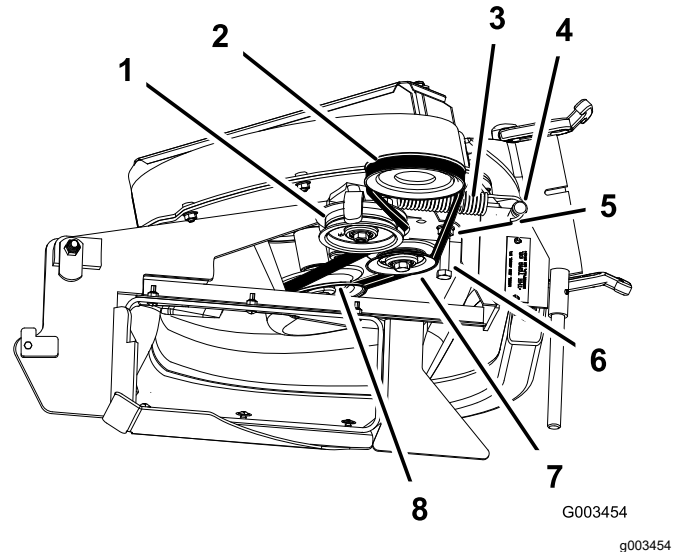

Figure 43
3. Loosen the belt-guide bolt (Figure 43).
5. Install the new belt around the blower pulley (Figure 43).
7. Tighten the belt-guide bolt (Figure 43).
9. Install the belt onto the spring-loaded idler pulley (Figure 43).